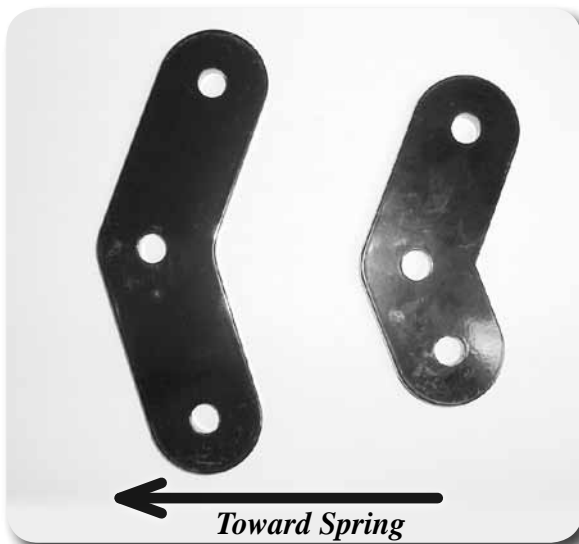

Figure 1
4. Loosely install the new shackle plates to the frame with a provided 1/2" bolt, nut and washers. See Figure 1 for the proper orientation of the plate when installed on the vehicle. The "elbow" of the shackle will always point in toward the spring.
Special Instructions for #J5101 and J5109: The shackle plates in these kits have an offset center hole to provide more clearance between the shackle center sleeve and the spring or the center sleeve and the hanger, depending on how they are installed. This will be up to the installer to choose the best way for that particular application. When the center sleeve is installed closer to the hanger it will provide more "anti-kick" back protection as well as more clearance for military wrap springs. Installed the other way the shackle will have a longer travel which works well with higher arched, flexible springs. Either way, follow Figure 1 for orienting the boomerang shape correctly.